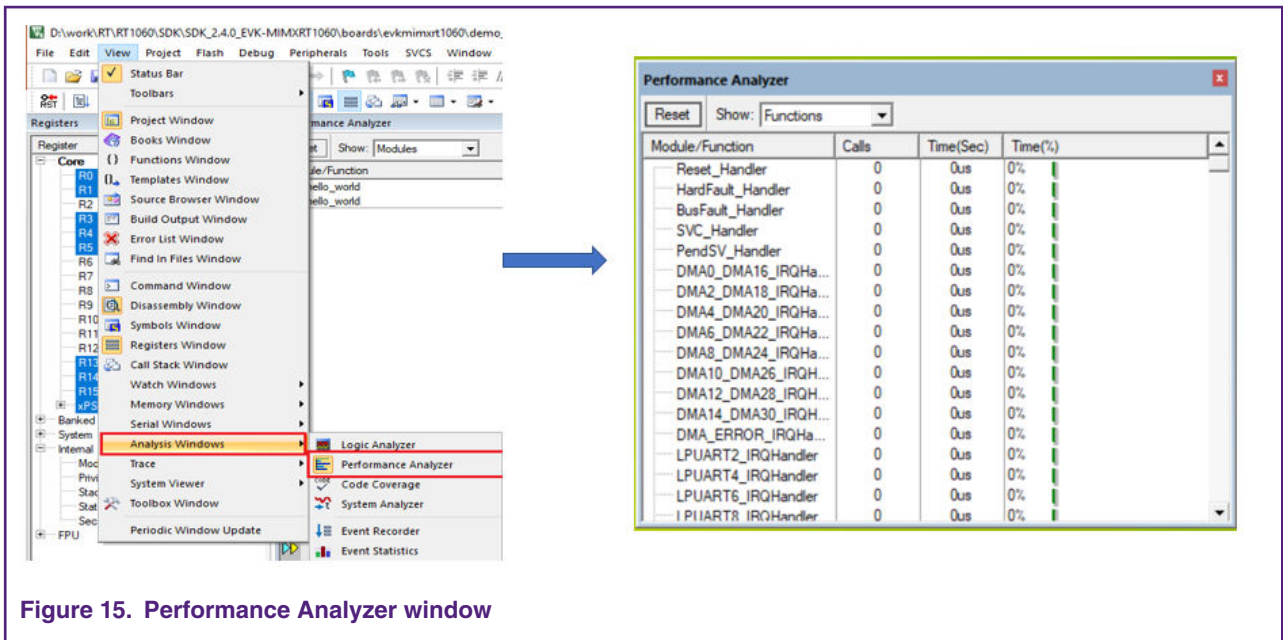

Figure 15. Performance Analyzer window
3. Figure 15. on page 15 shows the **Performance Analyze** window.